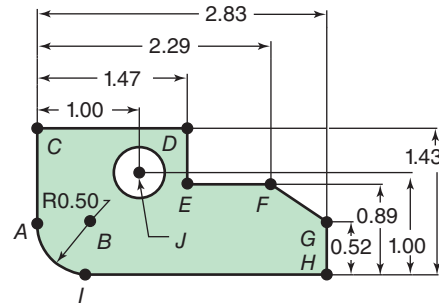

Figure 17-33 Mill questions and problems.
3. Draw a sketch of the PRZ symbol on a sheet of paper. Where should it be chosen for mill job shown in Fig. 17-33?
5. Write a set of *X-Y absolute value* coordinates for the indicated points in Problem 3 (Fig. 17-33). Record them in the sequence shown, then check your answers against those provided. Note, Z values are not needed for this exercise, but would be necessary in a program.